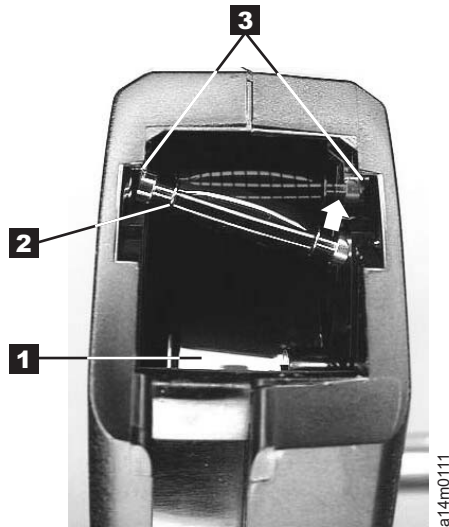

Figure 56. Placing the dislodged leader pin into the correct position.. The cartridge door is open, showing the leader pin out of position
1. Slide open the cartridge door (see **1** in Figure 56 on page 261) and locate the leader pin **2** (you may need to shake the cartridge gently to roll the pin toward the door).